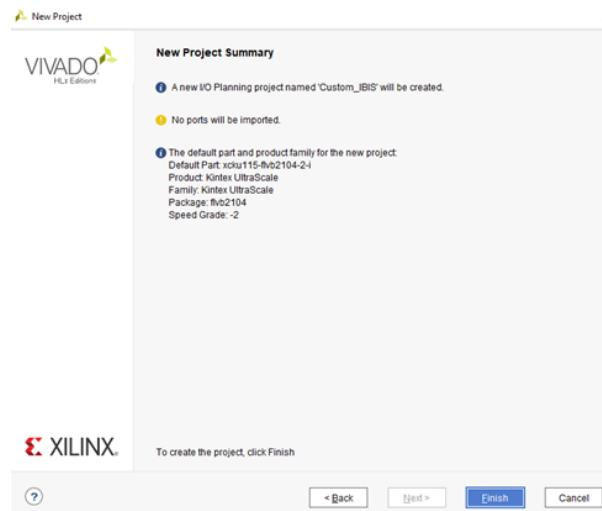

Figure 8: New Project Summary
- New Project Summary (Figure 8) Click Finish: